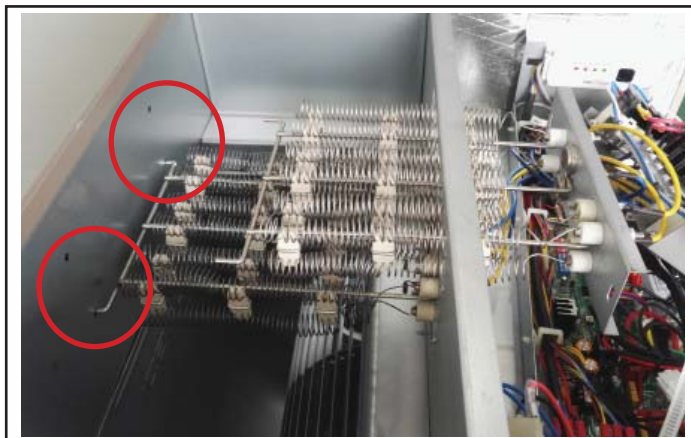

Figure 13. Position Heating Elements
12. Align the electric heat kit with the air handler unit and slide the heating element into the heat kit opening. The prongs on the back of the heating elements must be inserted into the holes in the back of the VVCA unit. See figure 13.